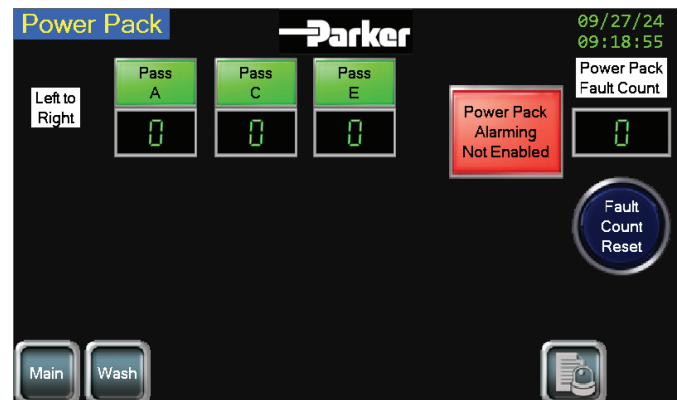

FIGURE 6a. ESP Tier Left to Right
- The Power Pack alarming screen will match the unit layout selected, as shown in Figure 6a-6c.